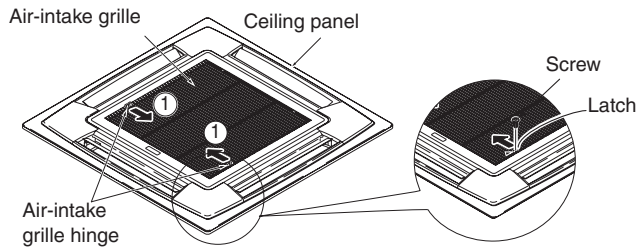

Fig. 1-131
- 1) Remove the 2 screws on the latch of the air-intake grille. (Fig. 1-131) (Reattach the air-intake grille after installation of the ceiling panel.)
- 2) Slide the air-intake grille catches in the direction shown by the arrows ① to open the grille. (Fig. 1-131)